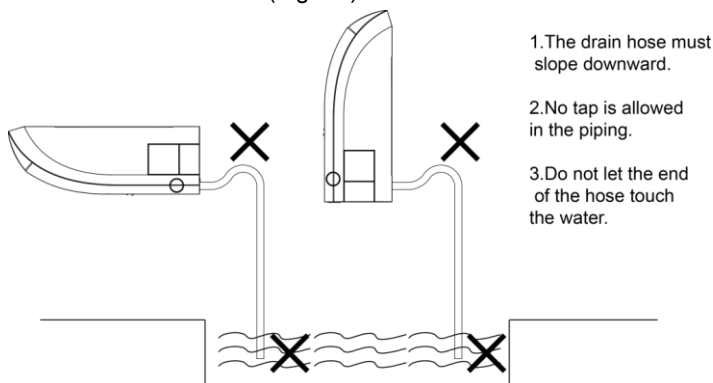

Fig. 20
- (4). Connect the drain hose.(Fig. 20)